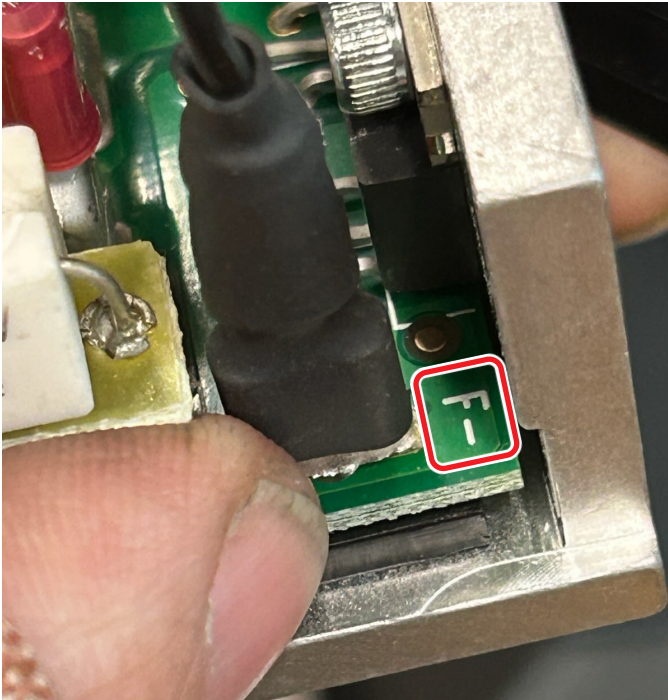

FIGURE 12—F- is indicated by the red rectangle.
J. Each of your wires should have push-on connectors for a spade connector on them. The black wire connector is pushed onto the spade post “F-” (see Figure 12).